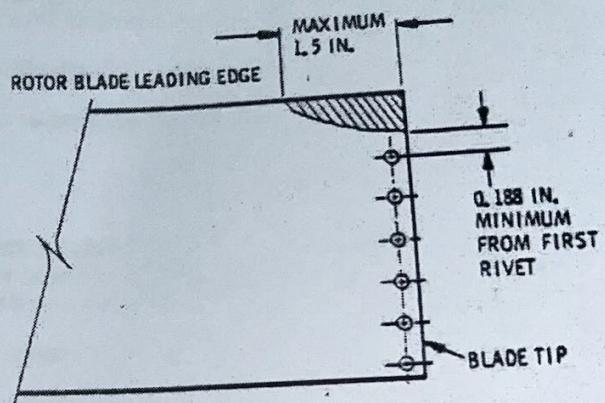

Figure 55-1-6. Erosion Limits, Tail Rotor Blade
(4) Blade tip erosion through the leading edge skin, but not into the doubler, is acceptable if the limits specified in figure 55-1-6 are not exceeded and the bond of the skin adjacent to the eroded area is intact. No skin bond separation is permissible adjacent to the eroded area.